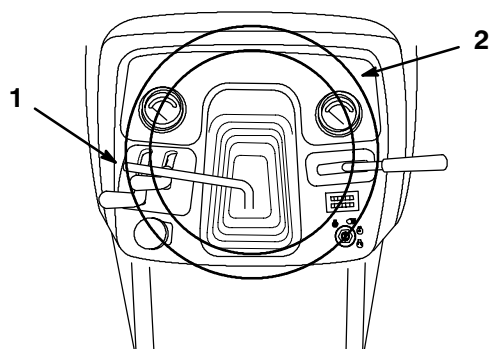

Figure 25
1. Lift the tilt lever to release the lock (Fig. 25).